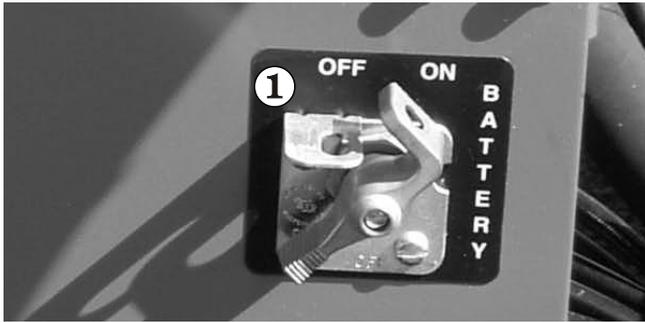

Figure 8.3
1. Set the **Battery** switch **1** to on (see Figure 8.3).